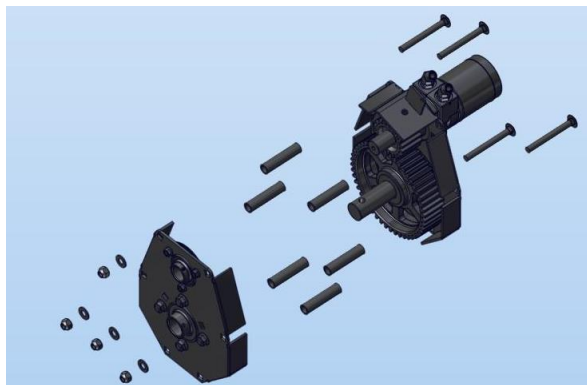

Figure 258
11. Install the left hand gearcase on the input and output shafts. Install spacers on each bolt as the bolts are placed in the right hand gearcase. Make certain the gears are aligned and tighten the lock collars. Figure 258